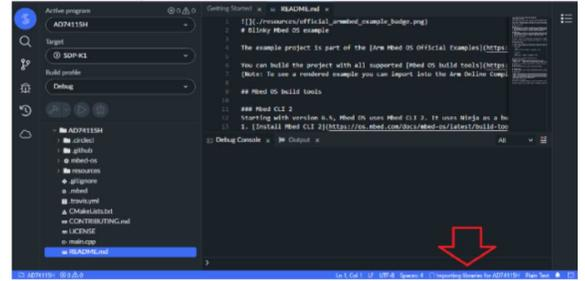

Figure 15. Wait Until Project Libraries Import
4. Wait until the libraries are imported (see **Figure 15**).